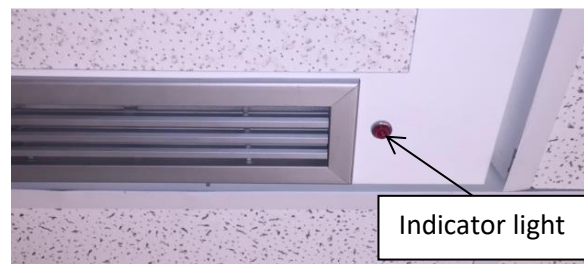

Figure 22: UV Indicator Light
- VS03 – Red interior indicator light (Figure 22)